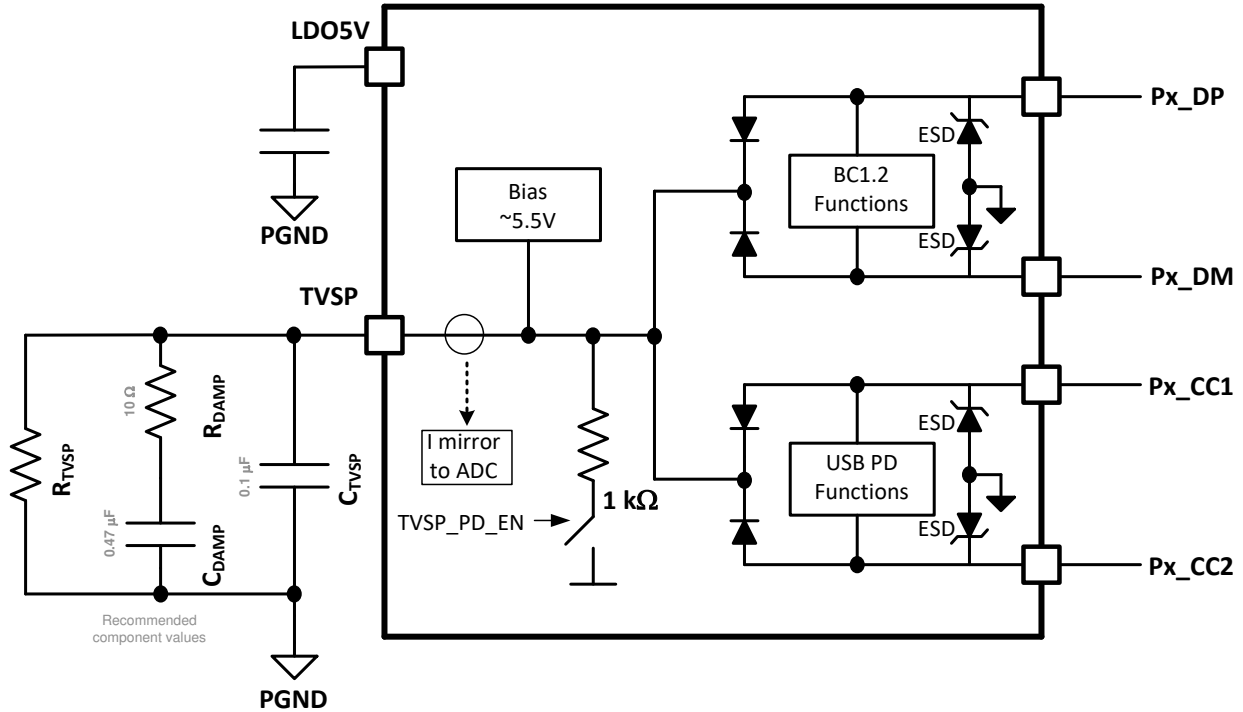

Figure 9-4. Basic TVSP Pin Connection
- **R_{TVSP} :** At power on, the resistance between the TVSP pin and PGND determines the boot method, USB PD port I²C addresses and I²C logic thresholds. Refer to Table 9-4. The most common configuration is shown in Figure 9-4 with R_{TVSP} open, corresponding to TVSP Index 0. During device initialization and boot, typically within 4 seconds after power on, V_{IN} must be above 7.6 V to ensure proper bias of the TVSP pin to 5.5 V. Once boot is complete the device can operate over the full V_{IN} range.